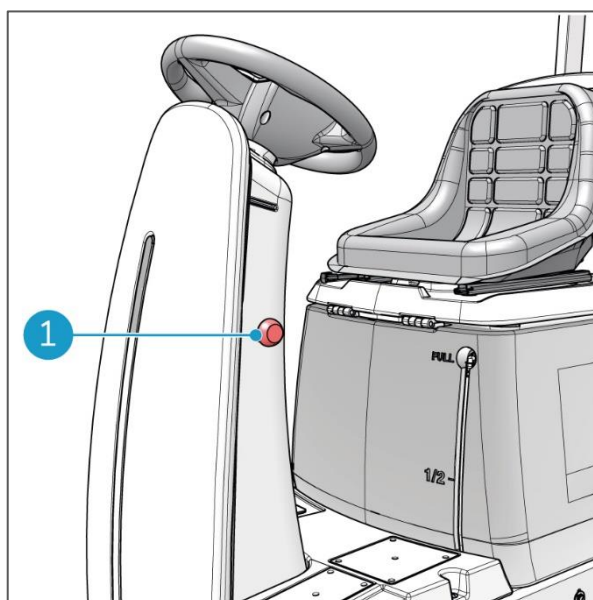

Figure 7
The emergency stop button (Figure 7, pos 1) is positioned on the steering column.